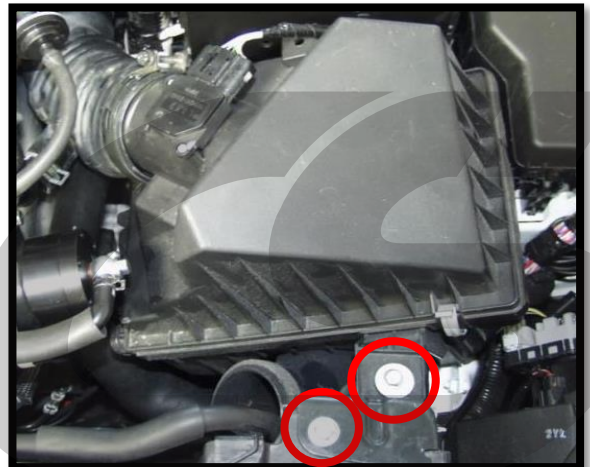

Figure 1c
d) Remove the two 10mm bolts on the air filter housing. Shown **circled in red in Figure 1c.**